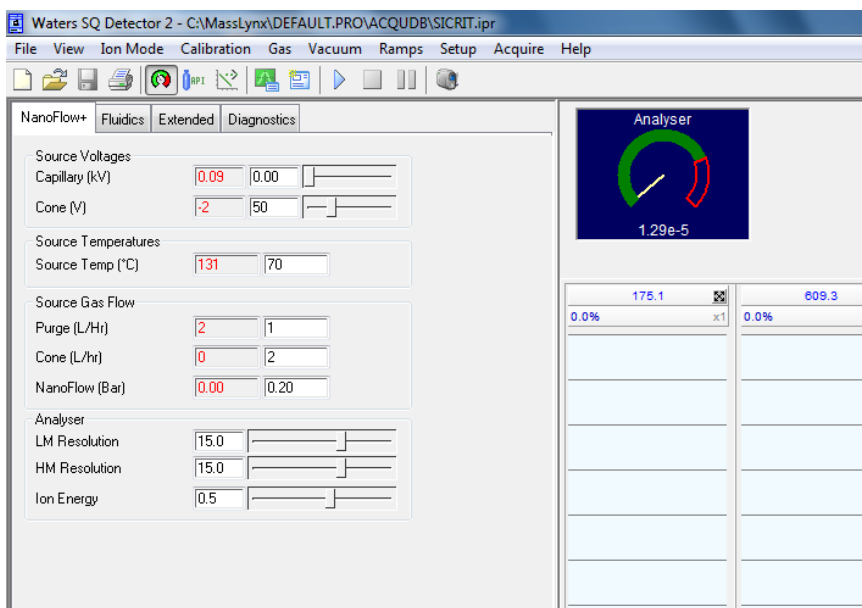

Figure 8: Source tab with parameter settings of MassLynx Software.
- Switch to “Source” tab and use the recommended settings according to Tab. 1 (see Fig. 8).